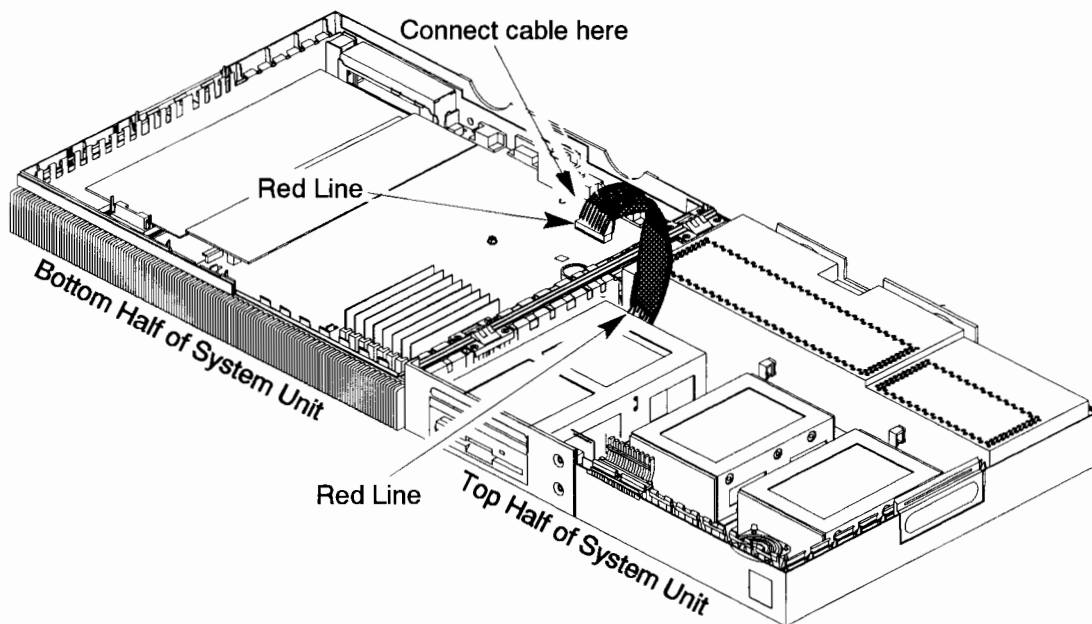

Figure B-14. Connecting the PC-Style Floppy Drive Ribbon Cable
11. If you are installing a floppy drive in a Model 715/64, 715/80, or 715/100 workstation, connect the floppy drive cable from the rear of the floppy drive to the floppy drive connector located in the bottom half of the system unit, as shown in Figure B-14.
CAUTION: The side of the SCSI cable with the red line (pin #1) **MUST** be positioned as shown in Figure B-14. Be certain that you properly align the connector with the pins, and that the connector seats firmly in place.